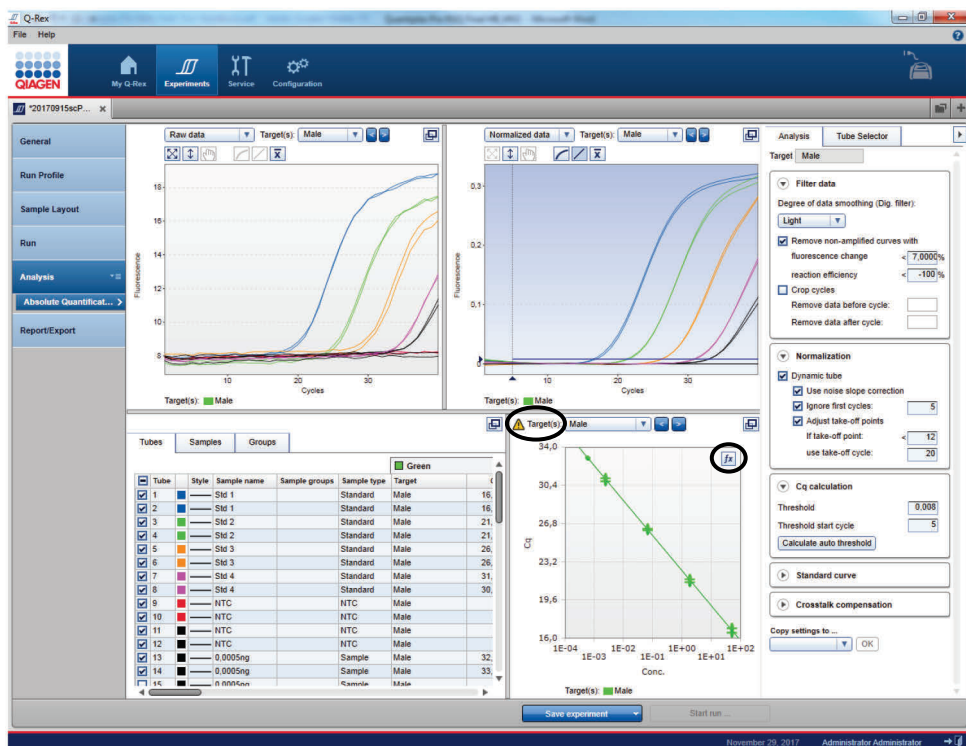

Figure 32. Standard curves in Q-Rex.
- The Standard Curves are shown in the "Targets" windows. Select one or multiple targets. View the calculated regression line, slope (M), y-intercept (B), R^2 and efficiency values by clicking on the fx-symbol (Figure 32).